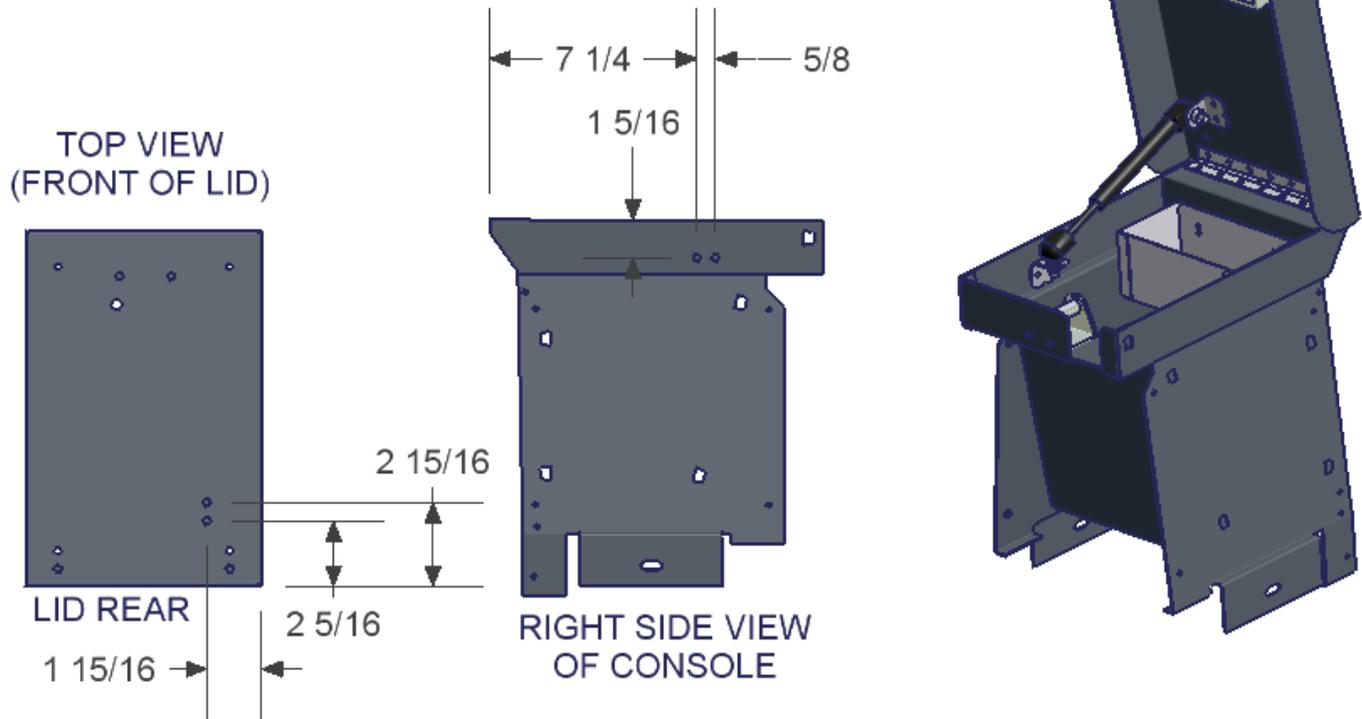

FIGURE 6 (PART# 139 JK CONSOLE INSERT ONLY)
4. Attach the top end of the #3 Gas strut to the #7 Bracket for the lid and fasten it to the holes drilled in the lid using the illustrated hardware. (See Figure 6)